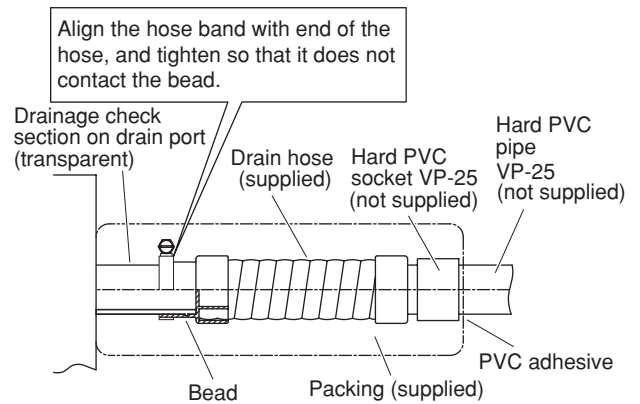

Fig. 3-89a
The transparent drain part on the unit allows you to check drainage. (Fig. 3-89a)
- Tighten the hose clamps so their locking nuts face upward. (Fig. 3-89a)